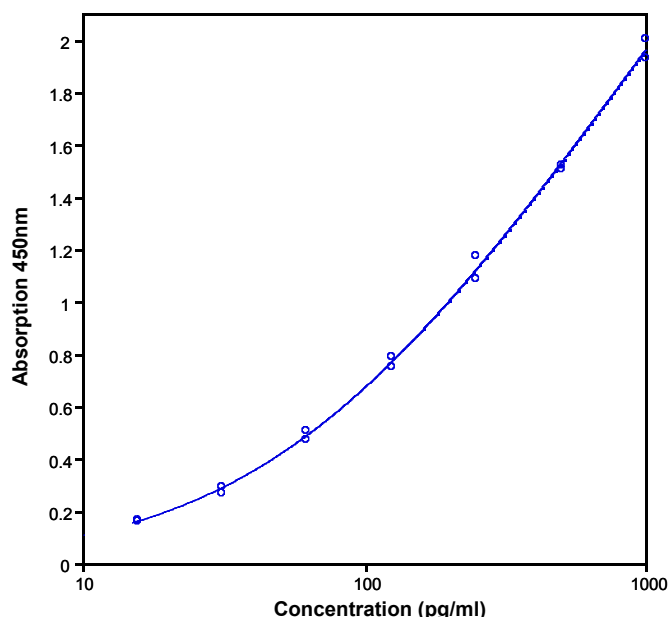

Fig. 8 Representative standard curve for Human CXCL8/IL-8 ELISA Kit. Human CXCL8/IL-8 was diluted in serial 2-fold steps in Sample Diluent.
- A representative standard curve is shown in Figure 8.